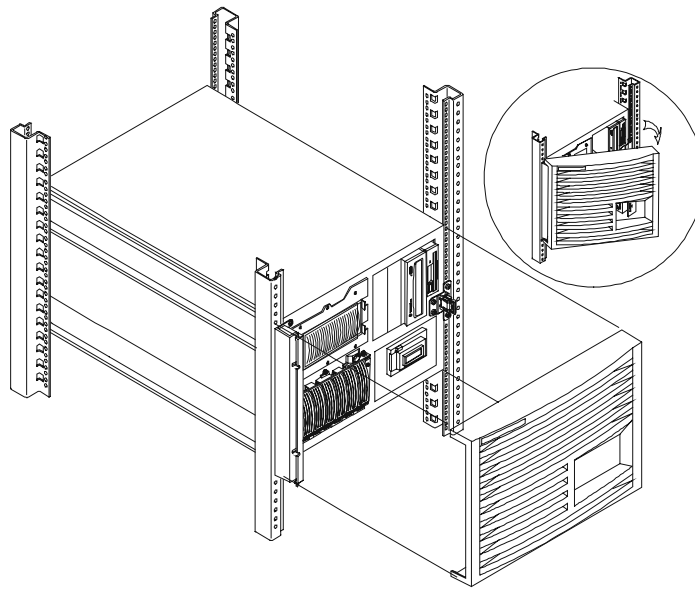

Figure 8-15. Installing the Bezel
6. Snap the bezel on the bezel hinge and close the bezel on the bezel latch. The bezel swings open to access the HP NetServer internal mass storage cage (see Figure 8-15).